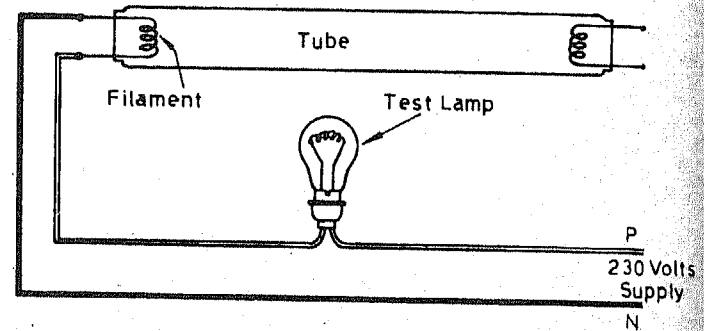

Fig. 24.4 Testing of Filament of Fluorescent Tube.
i) *A Lamp may not glow:* It is possible because there must be loose contact at rotor tube holder. Check this by test lamp putting a test lamp across the two contact points of rotor tube holder. There may be another reason that gas might have leaked out of lamp. Otherwise choke must be defective or filament of tube lamp may be broken. For testing of filament refer to Fig. 24.4.
For testing of choke refer to Fig. 24.4. Connect a 40 watts lamp in test lamp holder and connect the supply through test lamp to choke terminals. If the lamp gives 50 per cent of light or more then the choke is in good condition. If the choke is burnt out, then the lamp will either give full light or will not glow at all.